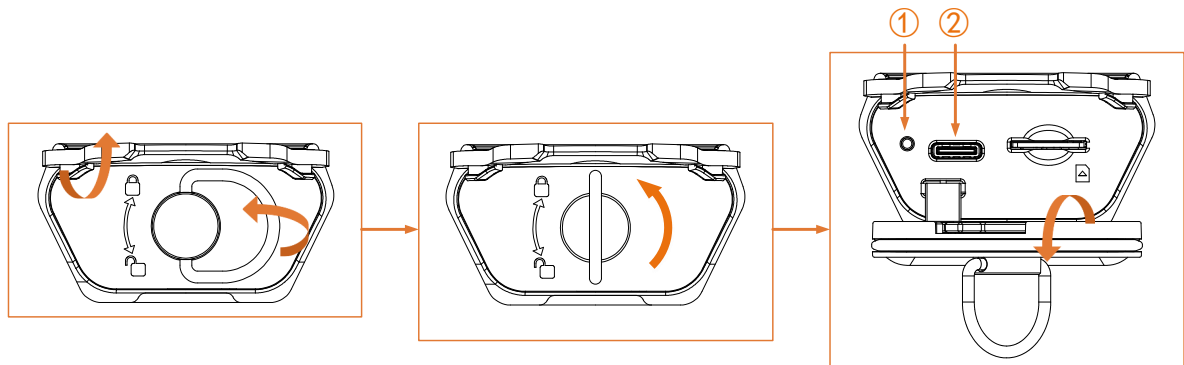

Figure 3-3 Show Type-C Interface
Step 1 Expose the type-C USB interface on top of the camera. See Figure 3-3 for operation steps.
Step 3 Connect the camera to the PC with a USB cable. To expose the USB interface of the camera, see Figure 3-3 for instructions.